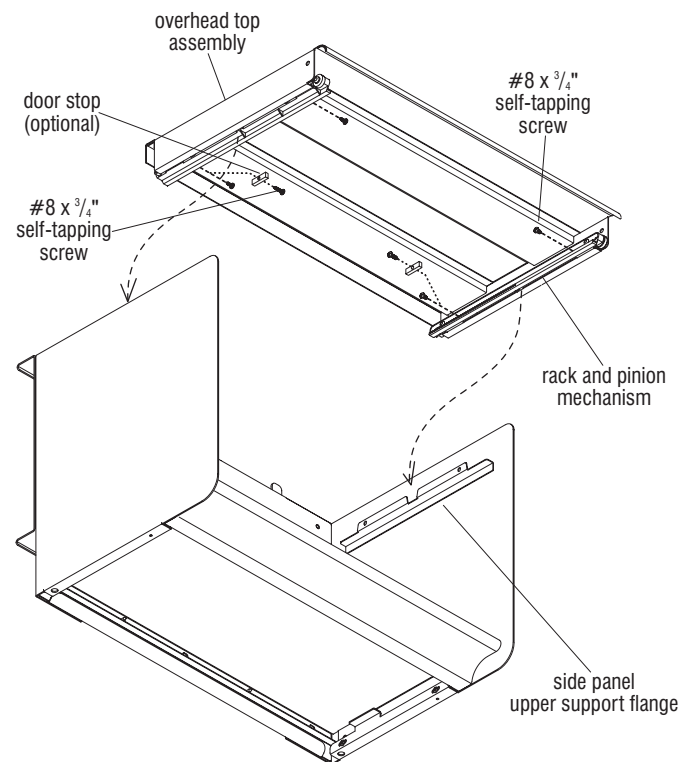

Figure 4
4. Place the overhead top assembly over the upper support flanges of the side panels. Tap the top down into place and align the round front edge with the matching radius on the side panel. Install and tighten four #8 x 3/4" self-tapping screws through the four larger oblong holes in the rack and pinion door mechanism inside the top assembly (Figure 4).
the installation of the door stop. Remove the two rear #8 x 3/8" screws (installed above). Press #8 x 3/4" self-tapping screws through each door stop and fasten the door stops to the flipper door racks on each side of the overhead where the two rear screws were removed (Figure 4).